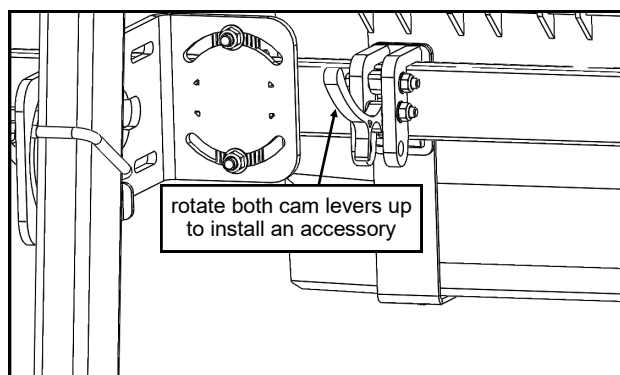

Fig. 2 (cam lever in the open position)
2. To install an accessory, have both cam levers rotated UP, then place onto the Tool Bar. See fig. 2.